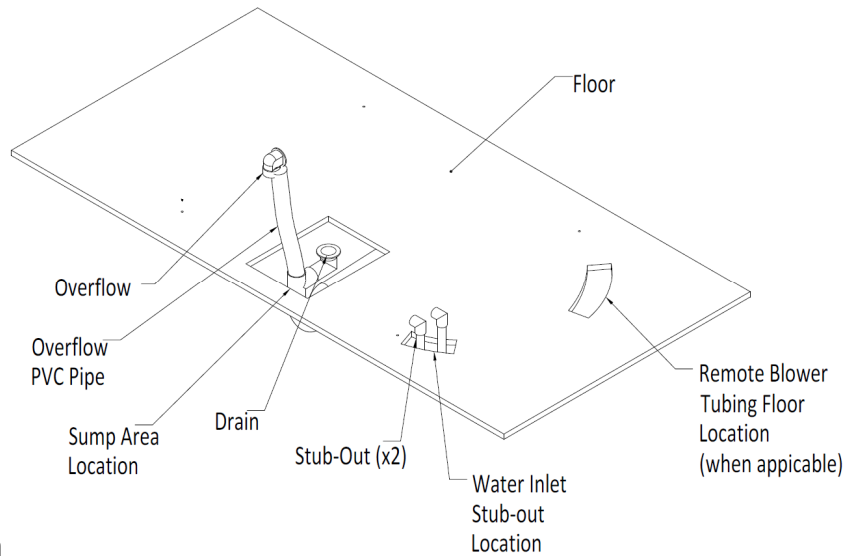

Figure 3
- c. Disconnect the drain and overflow from the bath and leave the drain assembly free standing in the "P" trap. **See Figure 3.**